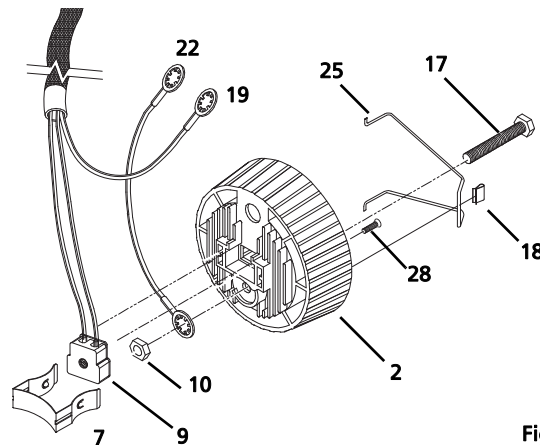

Figure 4
- 3: Insert the bolt (17) through the light baffle socket casting (2). See Figure 4.
- 4: Install the green and yellow ground wire assemblies (19 and 22) on the bolt (17) with the prongs on the crimped connectors toward the casting. Run both wires through the indent in the lip around the bolt hole. Secure with nut (10) and tighten securely (6.7 Newton meters).
- 5: Place the socket assembly (9) into the light baffle socket casting (2). Be sure it is well seated.
- 6: Install the lamp retainer spring (7). The lamp retainer spring secures the socket. Insert the spring one end at a time, making sure that the rectangular slot in each side of the spring seats on the corresponding tab in the casting. See Figure 4.